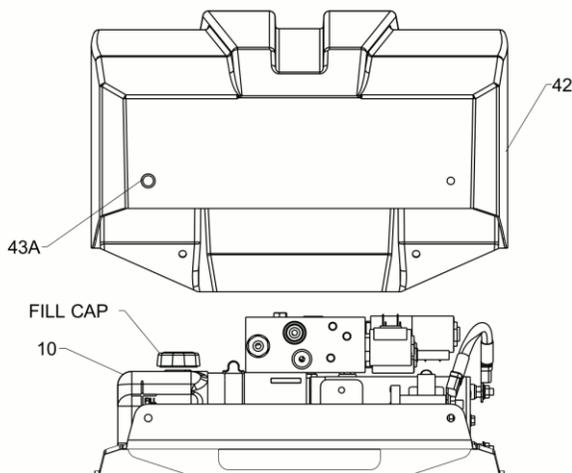

Figure 13. Hydraulic Fluid Fill Location
3. Locate and remove the Fill Cap from the Hydraulic Power Unit (10) reservoir shown in Figure 13.